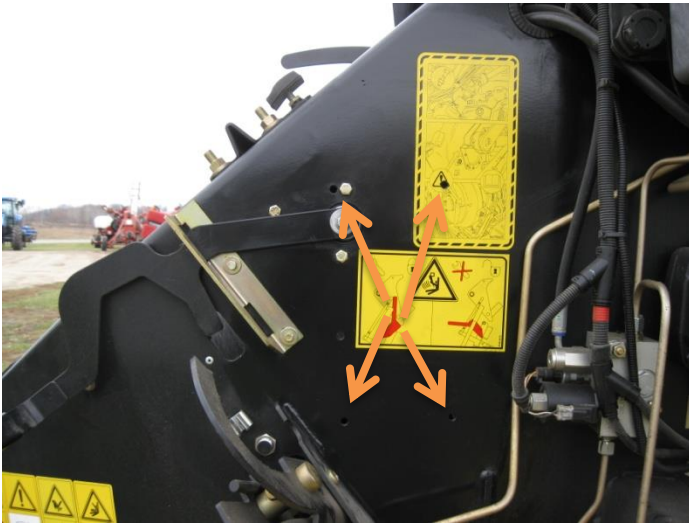

Figure 1
3. Locate the four holes by the fly wheel brake (Figure 1).